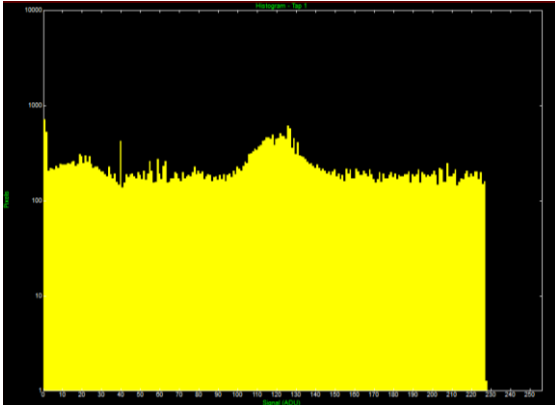

Figure 6: Plateau: 250, ITT: 110, Max Gain: 8
- Figure 6: Plateau: 250, ITT: 110, Max Gain: 8 8